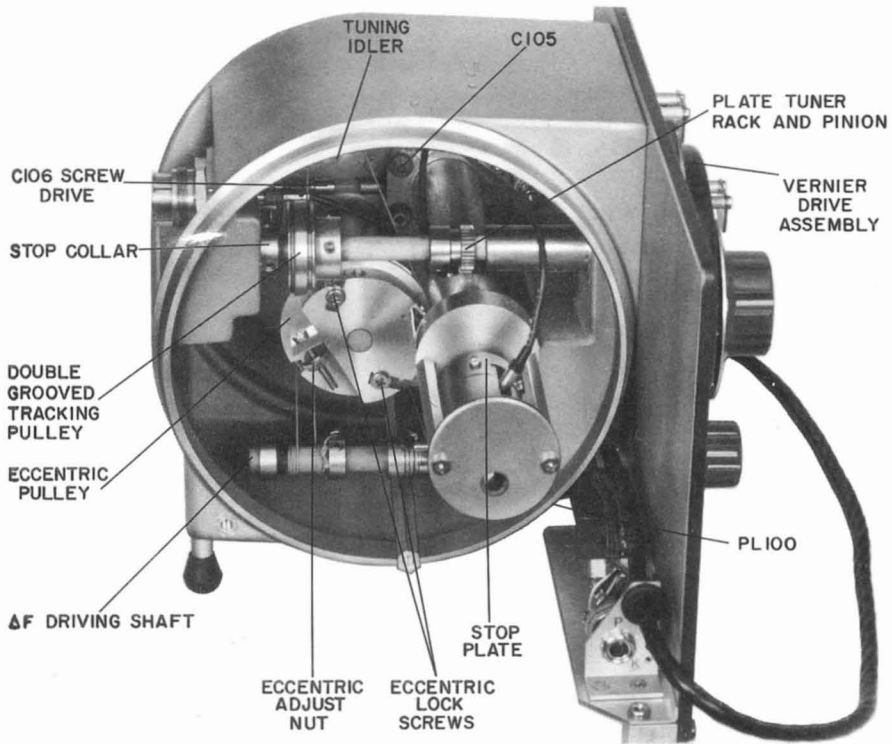

Figure 6-6. Interior view of Type 1218-B oscillator with shield cover removed showing tuning-adjustment points.
6.8.2 LOW-FREQUENCY ADJUSTMENT (Figure 6-6).
6.8.3 HIGH-FREQUENCY ADJUSTMENT (Figure 6-6).
The capacitive fine-tuning adjustment (C106) is a metal-disk probe inserted into the plate line, near the tube. It is driven by a nonmetal cable which works on a pulley arrangement to actuate a screw drive. A front-panel knob can be rotated about 300° in either direction from a neutral setting to vary the probe penetration. The drive mechanism of the capacitor is shown in Figure 6-6.
The cable is strung properly when the following requirements are met (see Figure 6-6). At the clockwise stop of the ΔF driving shaft there are two or three turns of cable adjacent to the spring, 3 1/2 turns around the rear half of the exposed threaded portion of the driven screw, and three or more turns around the driving shaft where the cable terminates at a collar. In that position, the screw comes within 1/32 inch of its limit, where the shoulder would bottom on the plate-line flange. The portion of the cable that comes off the top of the driving shaft should start underneath the driven shaft, in order to reverse the direct of rotation.
- b. Remove the vernier drive assembly (Figure 6-6) and again mark the stop locations, one of which should be unchanged.
The output-power level is controlled by rotation of the output pickup loop (L101), actuated by means of a cable-driven slotted drum on the left-hand end of the plate line (Figures 5-2 and 6-2). A curved metal plate on the top of the drum serves as a stop to protect the hidden end of C106, the fine-tuning probe. It limits the lineal excursion of the coaxial output cable, which is affixed to the plate-line tuning plunger, and prevents it from striking the probe (Figure 5-2). Therefore, if the stop plate (Figure 6-6) is to be removed, it should also be returned to exactly the same position.